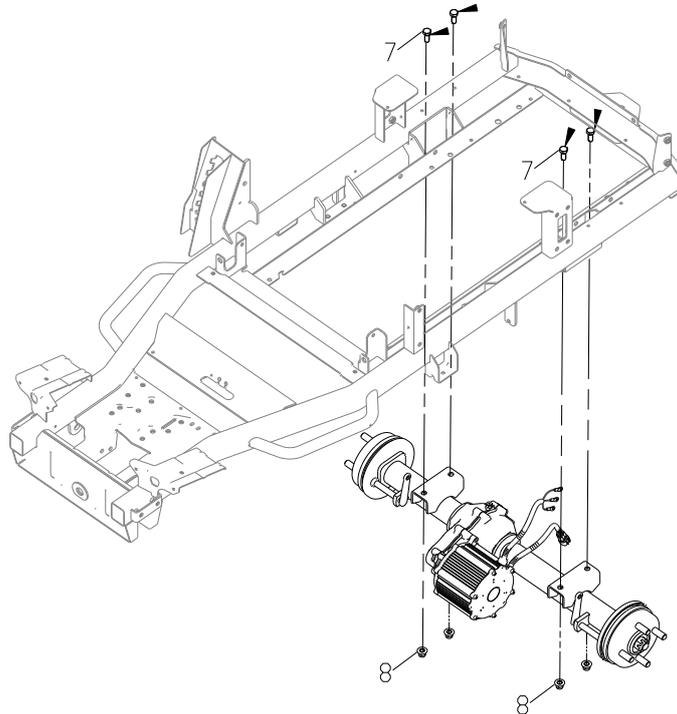

Fig. 6
6. Use a 15 mm open-end wrench to tighten the nut (7) in Fig.6. Use a 16 mm socket wrench to remove the bolt (8) by rotating counterclockwise in Fig. 6 (four sets of bolts and nuts in total for front & rear wheels).
2. Fix the rear wheel (10) onto the drive axle (11) with a 21 mm socket wrench and nut (9) to a torque of 95 N.m.
5. Fasten four sets of bolts & nuts as shown in Fig. 6 above to a torque of 45 N.m.